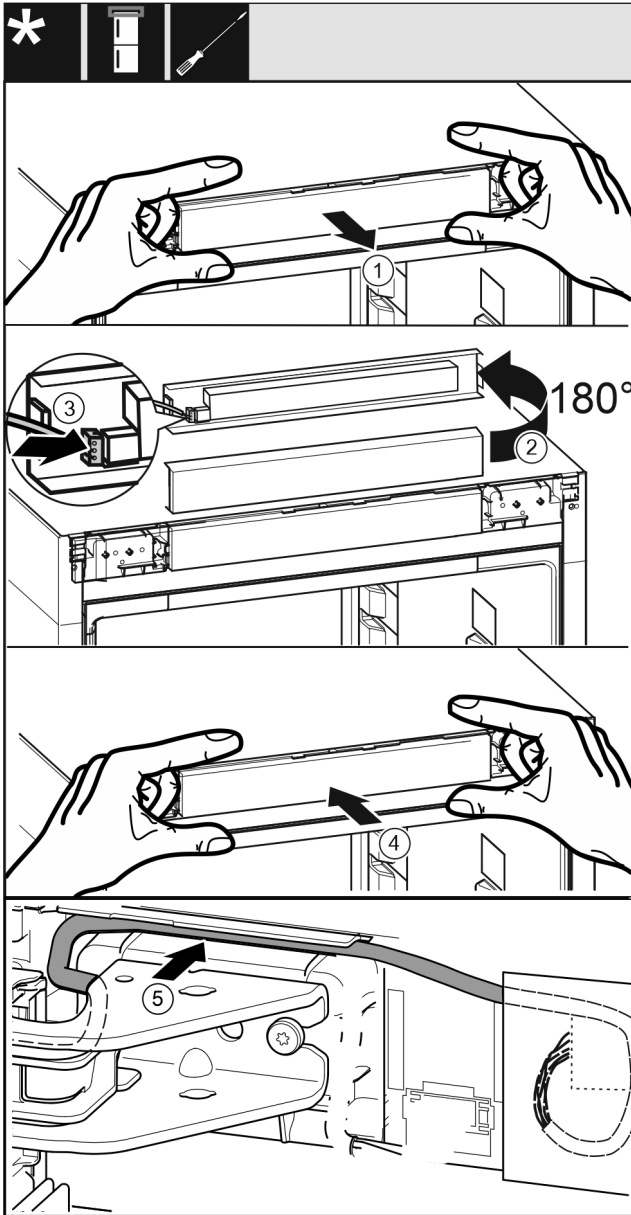

Fig. 41
- ▶ Take out the control panel carefully. *Fig. 41 (1)*
- ▶ Turn the panel upward through 180°. *Fig. 41 (2)*
- ▶ Engage the plug on the control panel. *Fig. 41 (3)*
- ▶ Latch the control panel into the appliance again. *Fig. 41 (4)*
- ▶ Carefully position the gray cable in the guide above the top bearing bracket. *Fig. 41 (5)*